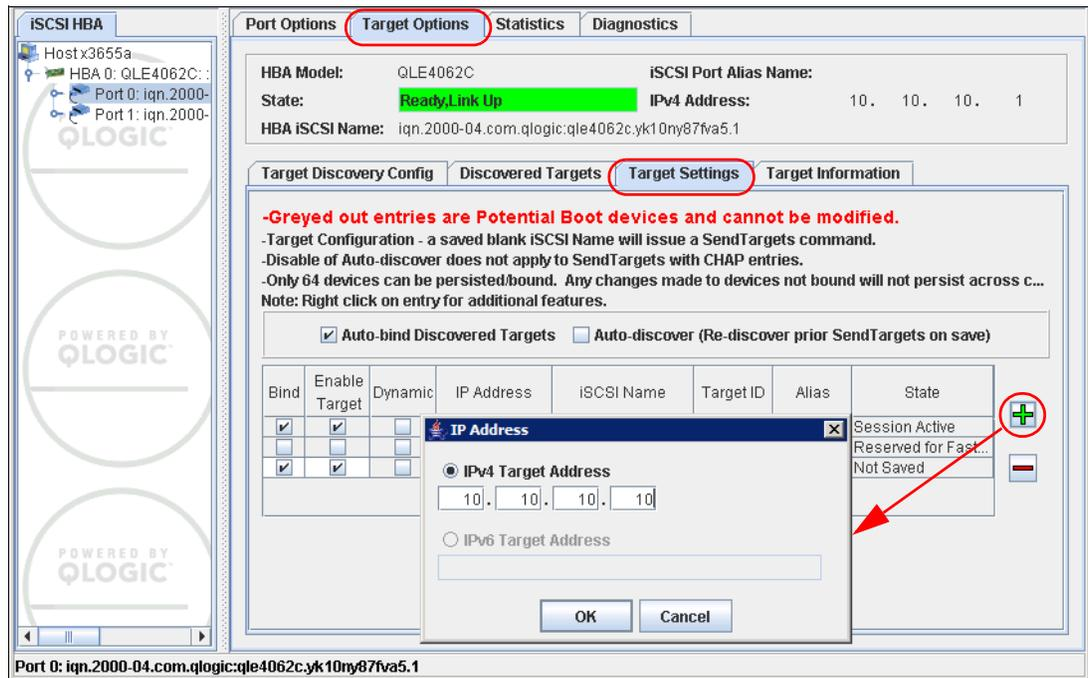

Figure 3-34 Target settings
- Now move to the **Target Settings** tab, and add the IP address of the controller A of your subsystem as shown in Figure 3-34.